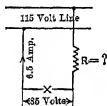

FIG. 54. Arc lamp with series resistor across 115-volt line.
**Prob. 58-2.** The arc lamp in Fig. 54 requires 6.5 amperes at 85 volts across the arc to make it burn with a steady light. What resistance  $R$  must be added to the lamp in order to run it on a 115-volt line?